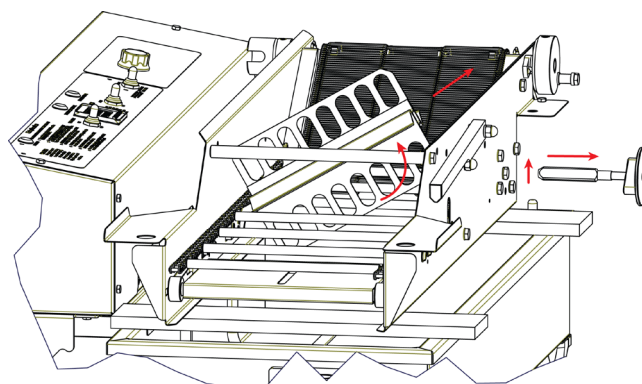

Figure 11
6. Lift out the turner. See Figure 11.